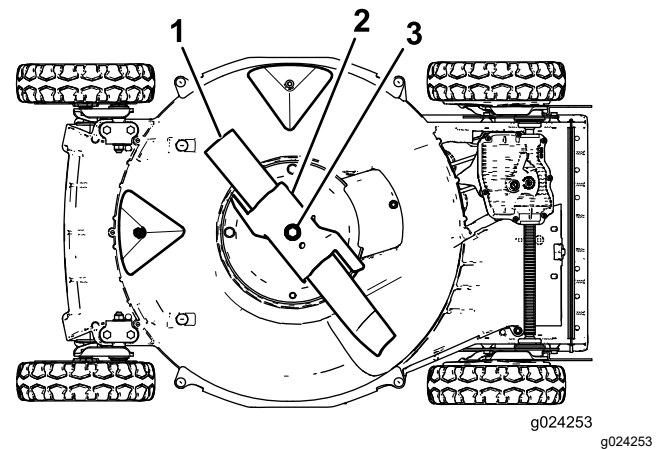

Figure 23
5. Tip the machine onto its **right** side (air cleaner up) as shown in Figure 23.